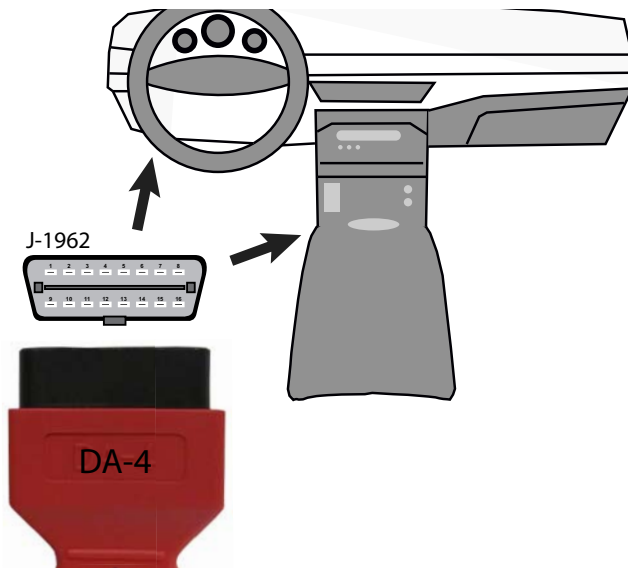

Figure 4-4 DA-4 data cable (16-pin end) connection to vehicle DLC (typical DLC locations)
4. Connect the 16-pin (J-1962) end of DA-4 cable (*Figure 4-4*) to the vehicle DLC.